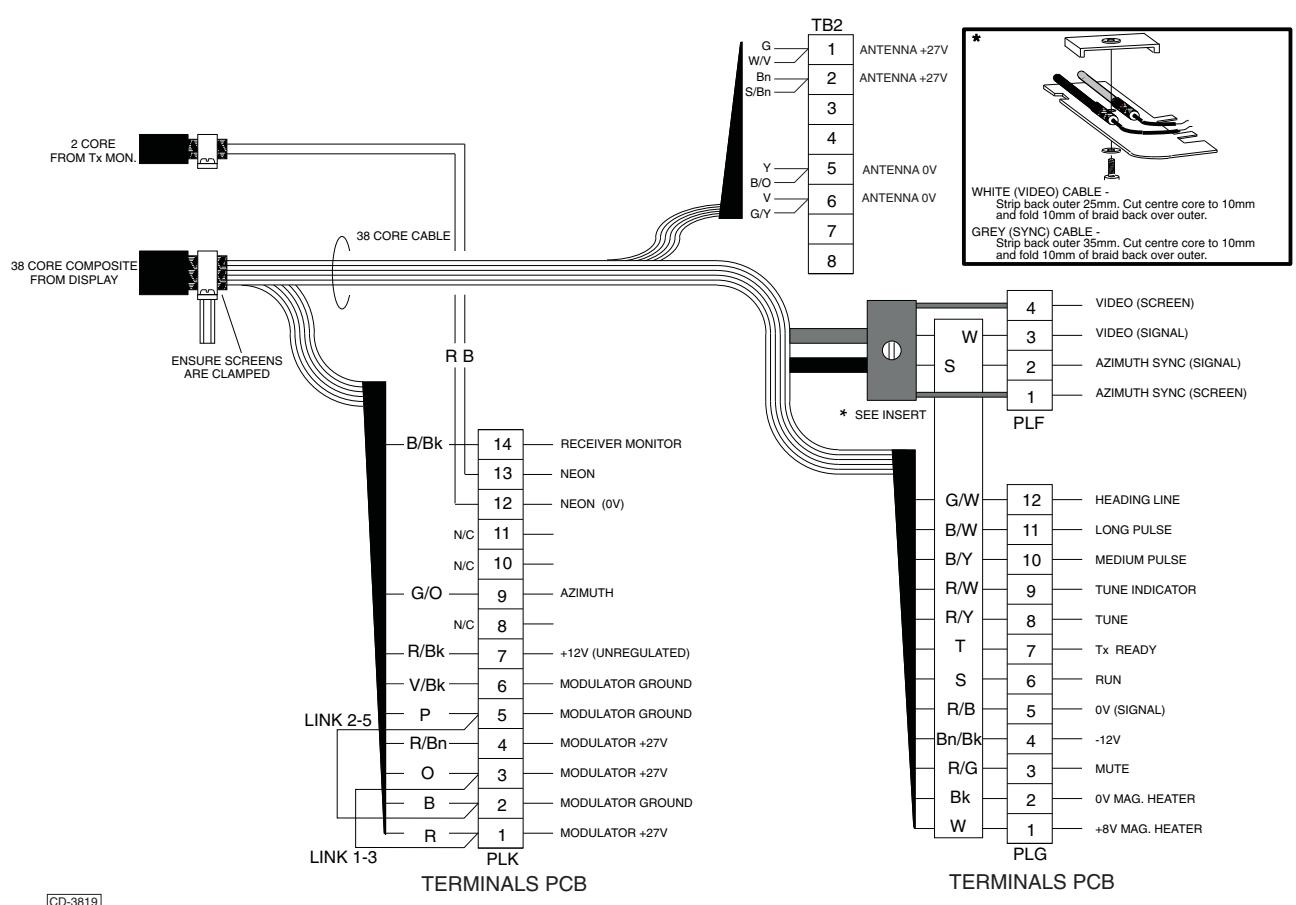

Figure 6c - Connection Diagram (CAE-A30-7)
- 31 Connect wires as shown in Figure 6c.